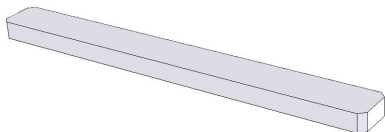

Fig 10. PTFE Pad
The PTFE pad supplied (see **Fig 10.**) is for use with the trough (3) top plate assembly with **solid** samples. The pressure required from the clamping assembly (1) is transferred to a solid sample via this PTFE pressure pad being placed on top of the sample. Its thickness compensates for the recess depth to the ATR crystal (17) surface created by the surrounding top trough plate metalwork (18). However, the trough (3) top plate assembly is not as efficient as a flat (4) top plate assembly for the analysis of very thin films and powders using the clamp assembly (1), because of the crystal (17) being slightly recessed into the metalwork (18). Therefore, the flat (4) top plate assembly is recommended for samples of this type to use with the clamp assembly (1) alone, **without** the PTFE pad.